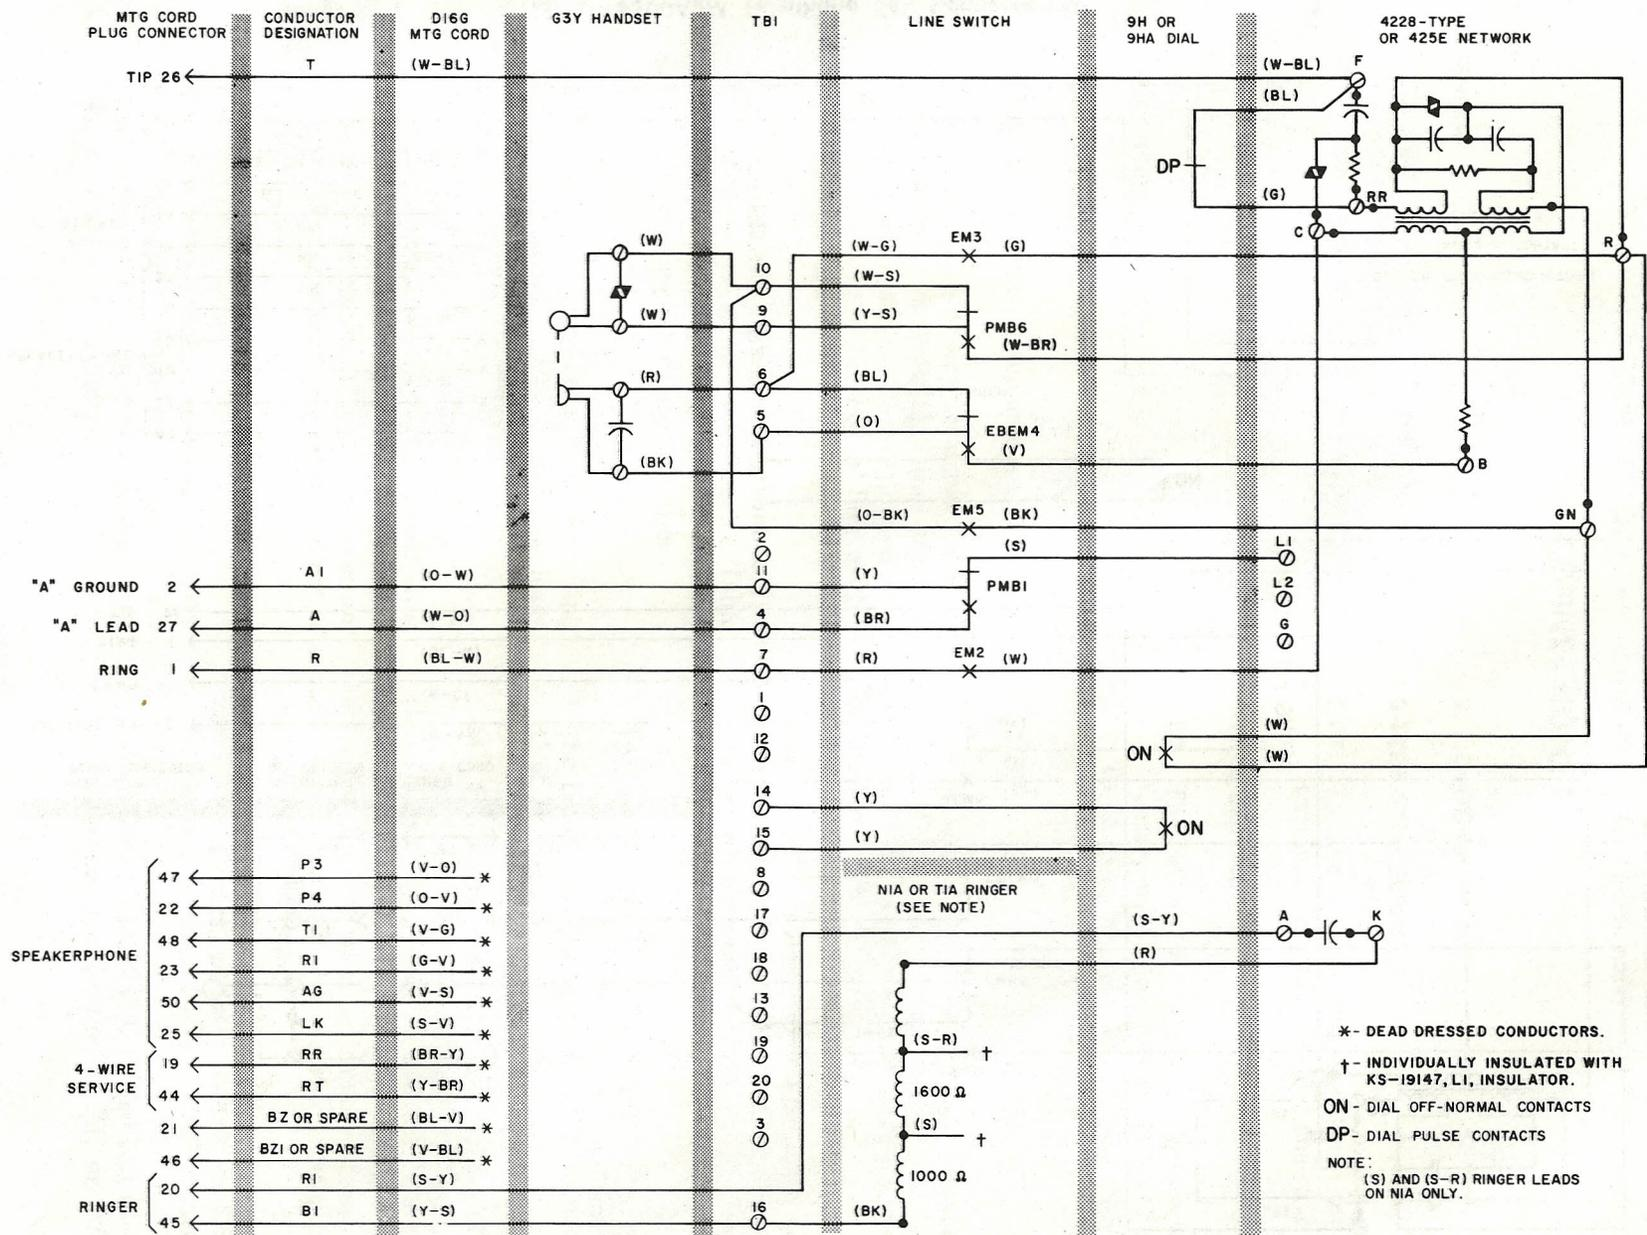

Fig. 1—500AB Telephone Set, Connections
2.02 The 500AB or 500ABM telephone set is factory wired for 2-wire service (Fig. 1 and 2). Table B shows wiring changes necessary to convert the set to 4-wire service.